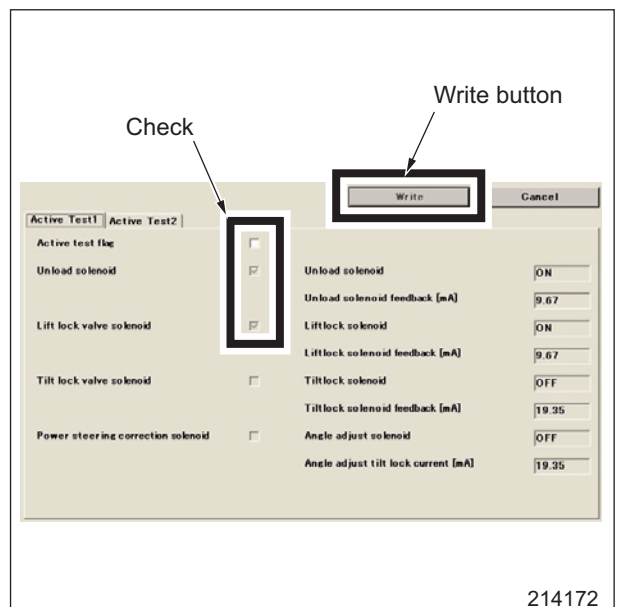

Fig. 1-10 Active test check screen
- (5) Check the box of the unload solenoid and the lift lock valve solenoid, and press the write button. (Fig. 1-10)
- (6) When the write confirmation dialogue box is displayed, press the YES button same as item (3) above, and when the write completed dialogue box is displayed, press the OK button.